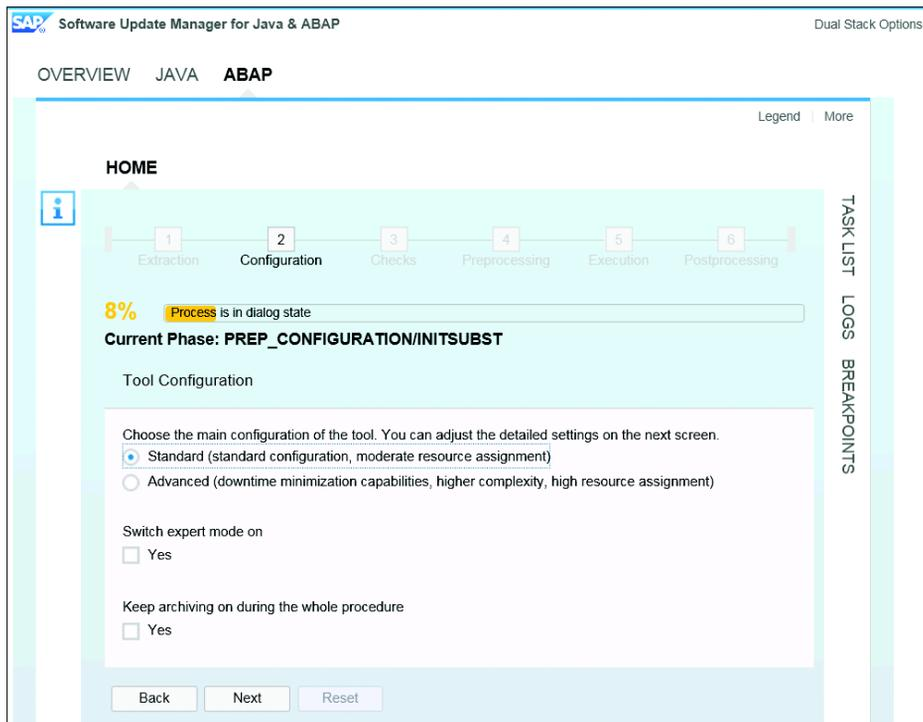

Figure 45 Select the Initial Configuration Options
1. First, you need to decide between three options. You are selecting standard mode without the expert mode turned on (see Figure 45). Make your selections and select NEXT.